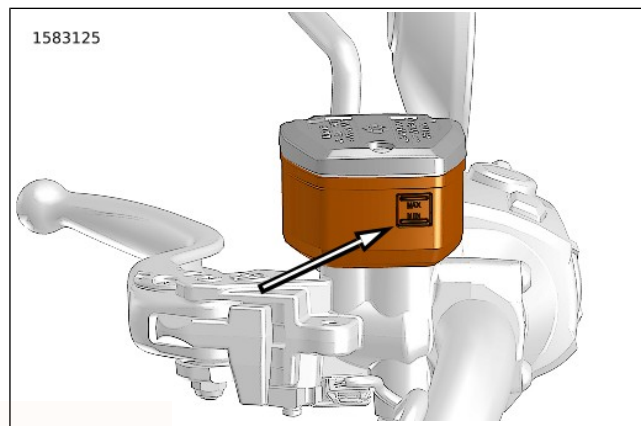

Figure 48. Front Master Cylinder Reservoir MIN Level
2. **Front:** See Figure 48 Check level on side of front brake reservoir. Level must be above minimum mark on side of reservoir.